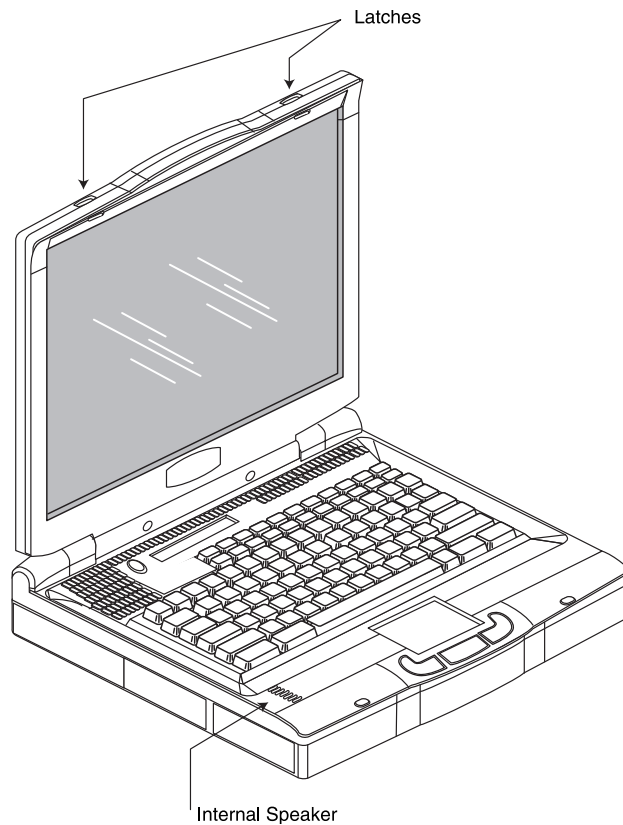

Figure 3-1 Raising the Display Cover
1. Slide the two display cover latches outward to the left and right sides of the unit (see Figure 3-1).